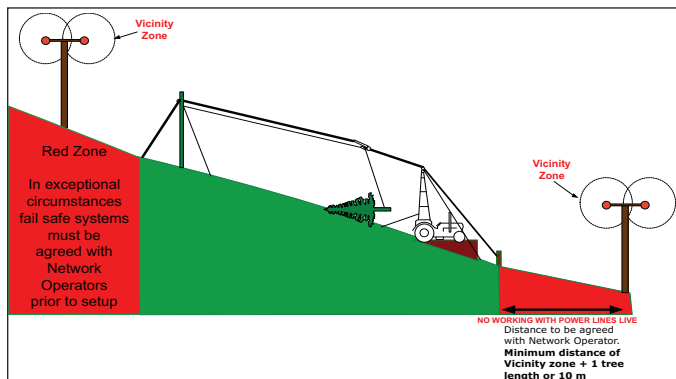

Figure 6: Cable crane set up
- Normally no part of the aerial setup (i.e. tower/mast, skyline, haul lines, guy, spar or supports) should be located within the Red Zone of an OHPL (see Figure 6). In exceptional circumstances it may, on occasion, be